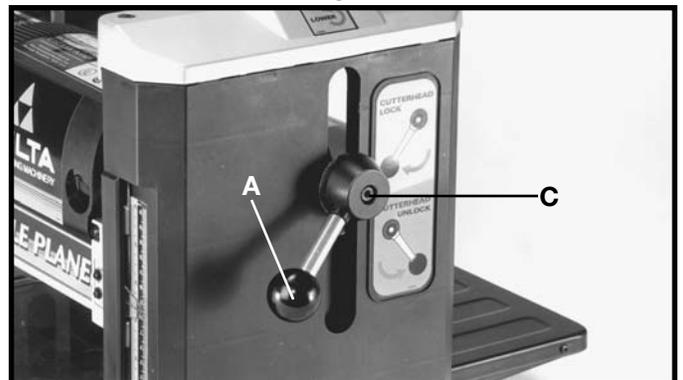

Fig. 6
2. Fasten cutterhead lock handle (A) Fig. 6, to the shaft using the M6 - 20mm special hex socket head screw (C), with wrench supplied.